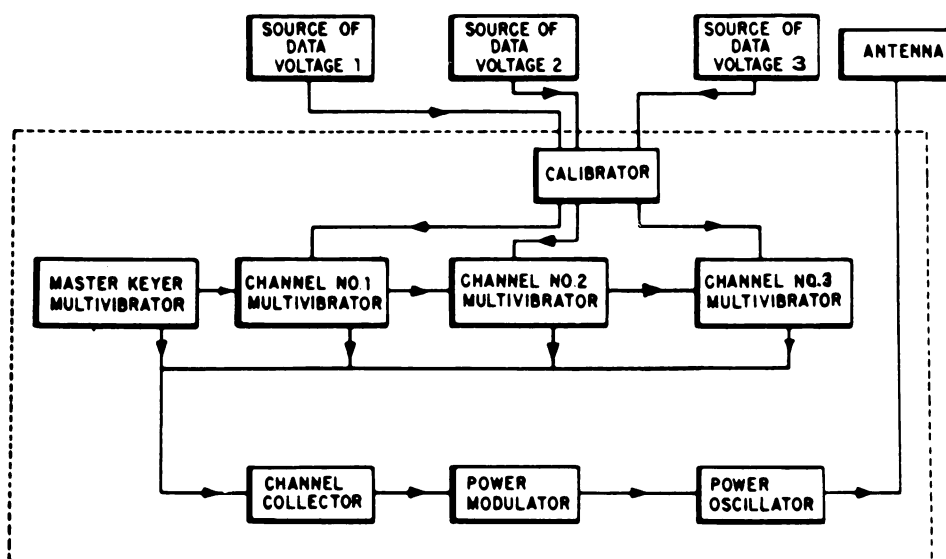

Figure 5G.—Block diagram of 3-channel airborne telemetering unit with electronic commutation.
● Items 29 through 31 refer to the airborne telemetering unit in figure 5G. You will find an explanation of this system on page 338 of your textbook.
31. The channel No. 3 multivibrator in figure 5G is triggered by the
30. Assume that you are on duty in a telemetering ground station which receives the signal transmitted by the unit shown in figure 5G. What part of the received signal should you examine in order to determine the original value of data voltage 2?